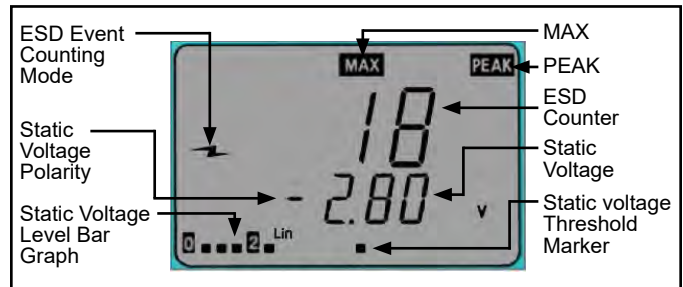

Figure 12. Static Voltage Field channel
1. Toggle the joystick until the Static Voltage channel is displayed (Figure 12).